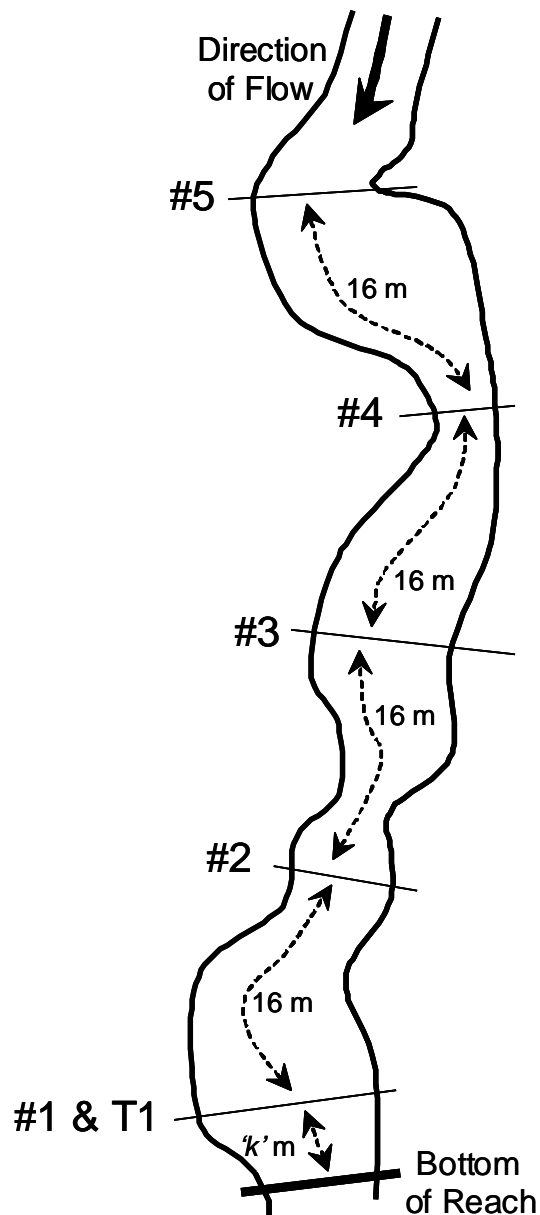

Figure 2: Bankfull width measurement locations for determining the width category.
Collect five bankfull width measurements (Figure 2); the average of these five values will be used to determine the width category for sampling (Table 1). Measure the bankfull width perpendicular to the main channel.
2. Take the 2nd-5th bankfull width measurements at 16m intervals following thalweg upstream from the 1st measurement location (Figure 2).